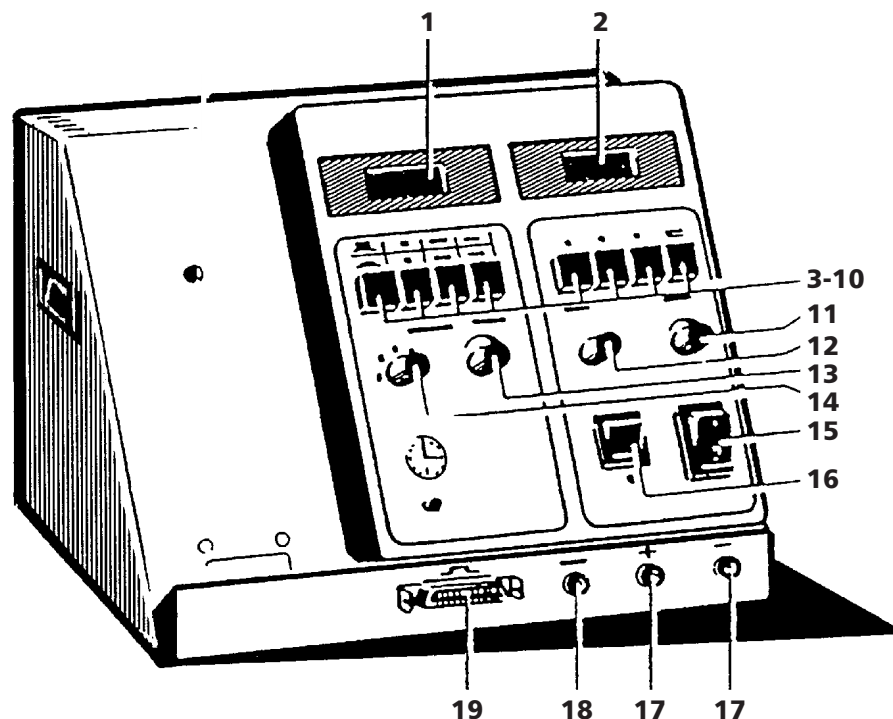

Fig. 1-3: Front of STC
- Separate display (2, Fig. 1-3) of the voltage set or the amount of current the TCO is using.